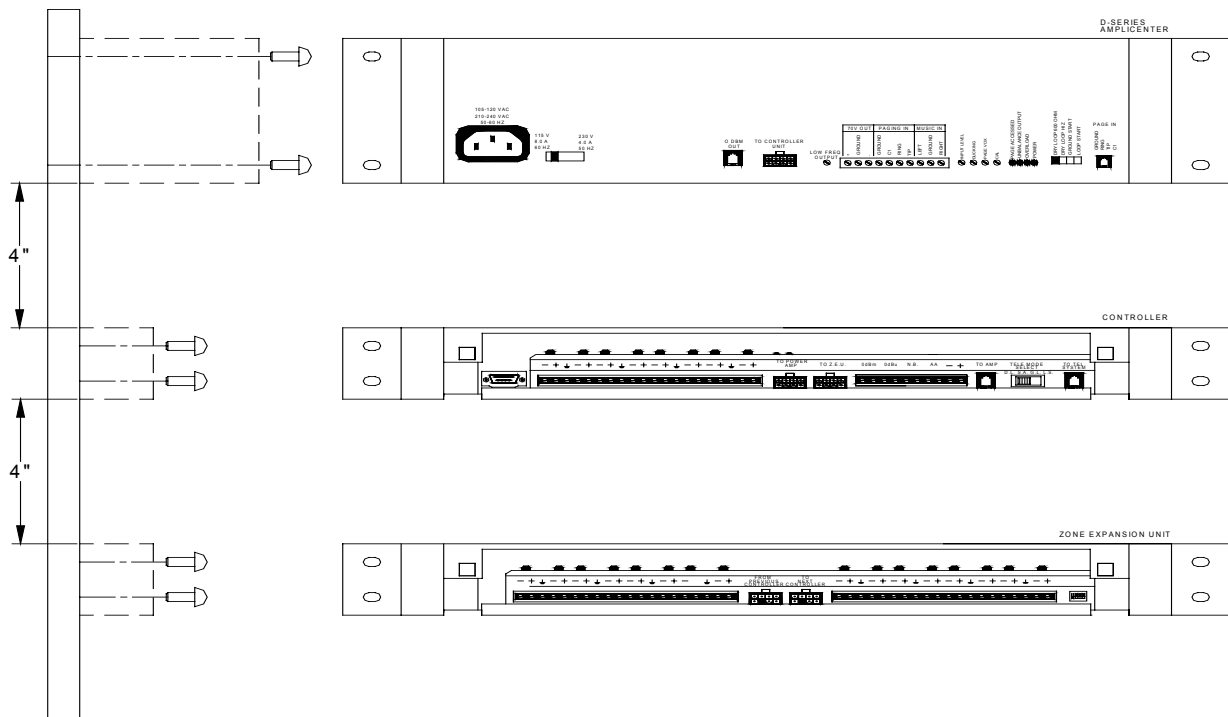

Figure 1. Wall Mounted Hardware
1. Mount the PagePac® Plus Controller and Zone Expansion Units, if any, to either a wall (see Figure 1), cabinet or a rack (below the AmpliCenter or other amplifier) (see Figure 2).